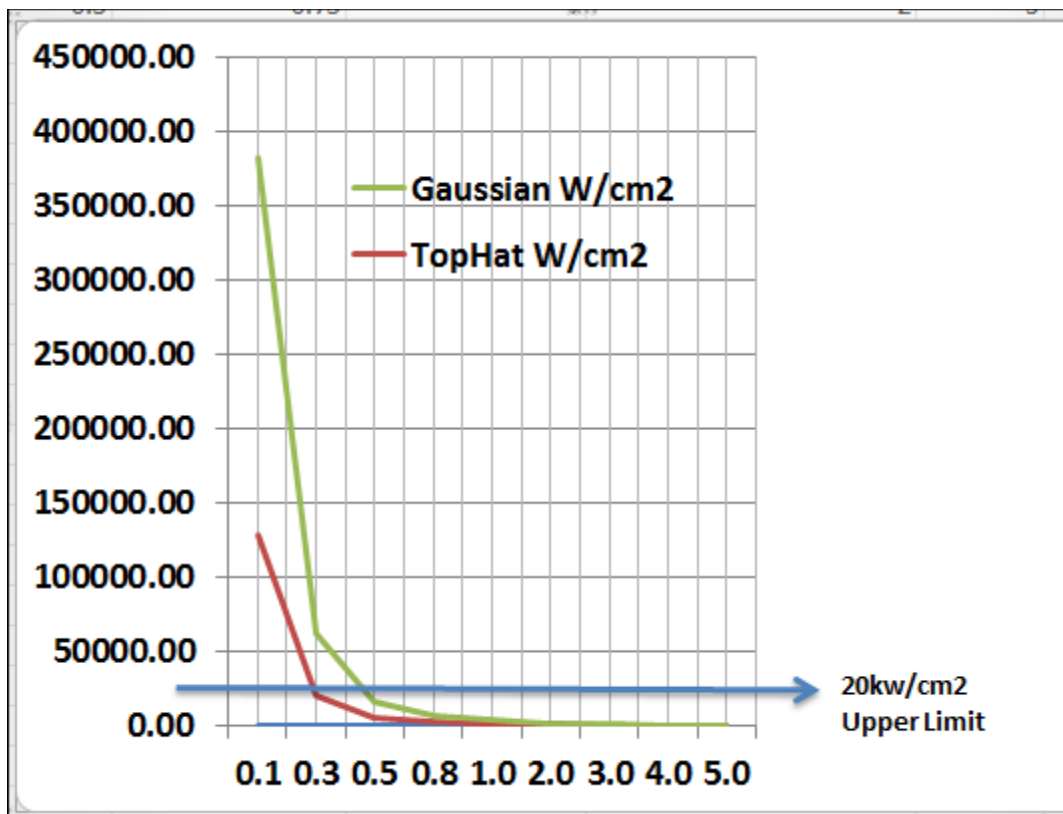

Figure 5. Differences in power density for TopHat beam vs Gaussian beam. Beam Diameter is on the X Scale, Power Density in W/cm² is on the Y Scale.
Figure 5 demonstrates the dramatic effect of power density between a Gaussian vs a TopHat beam and shows the effect of power density when the beam size is reduced. This chart plots nine (9) different beam sizes from 0.1mm to 5mm, showing the difference in Power Density between a TopHat Beam and a Gaussian Beam. Generally, the Power Density of a Gaussian beam is twice that of TopHat Beam.
Most sensors for power measurement can handle up to 20kw/cm², shown in the Blue Line at the bottom of Figure 5. However, if you try to measure a beam diameter less than 0.5mm for a Gaussian beam, or less than 0.3mm for a TopHat beam, damage will occur.